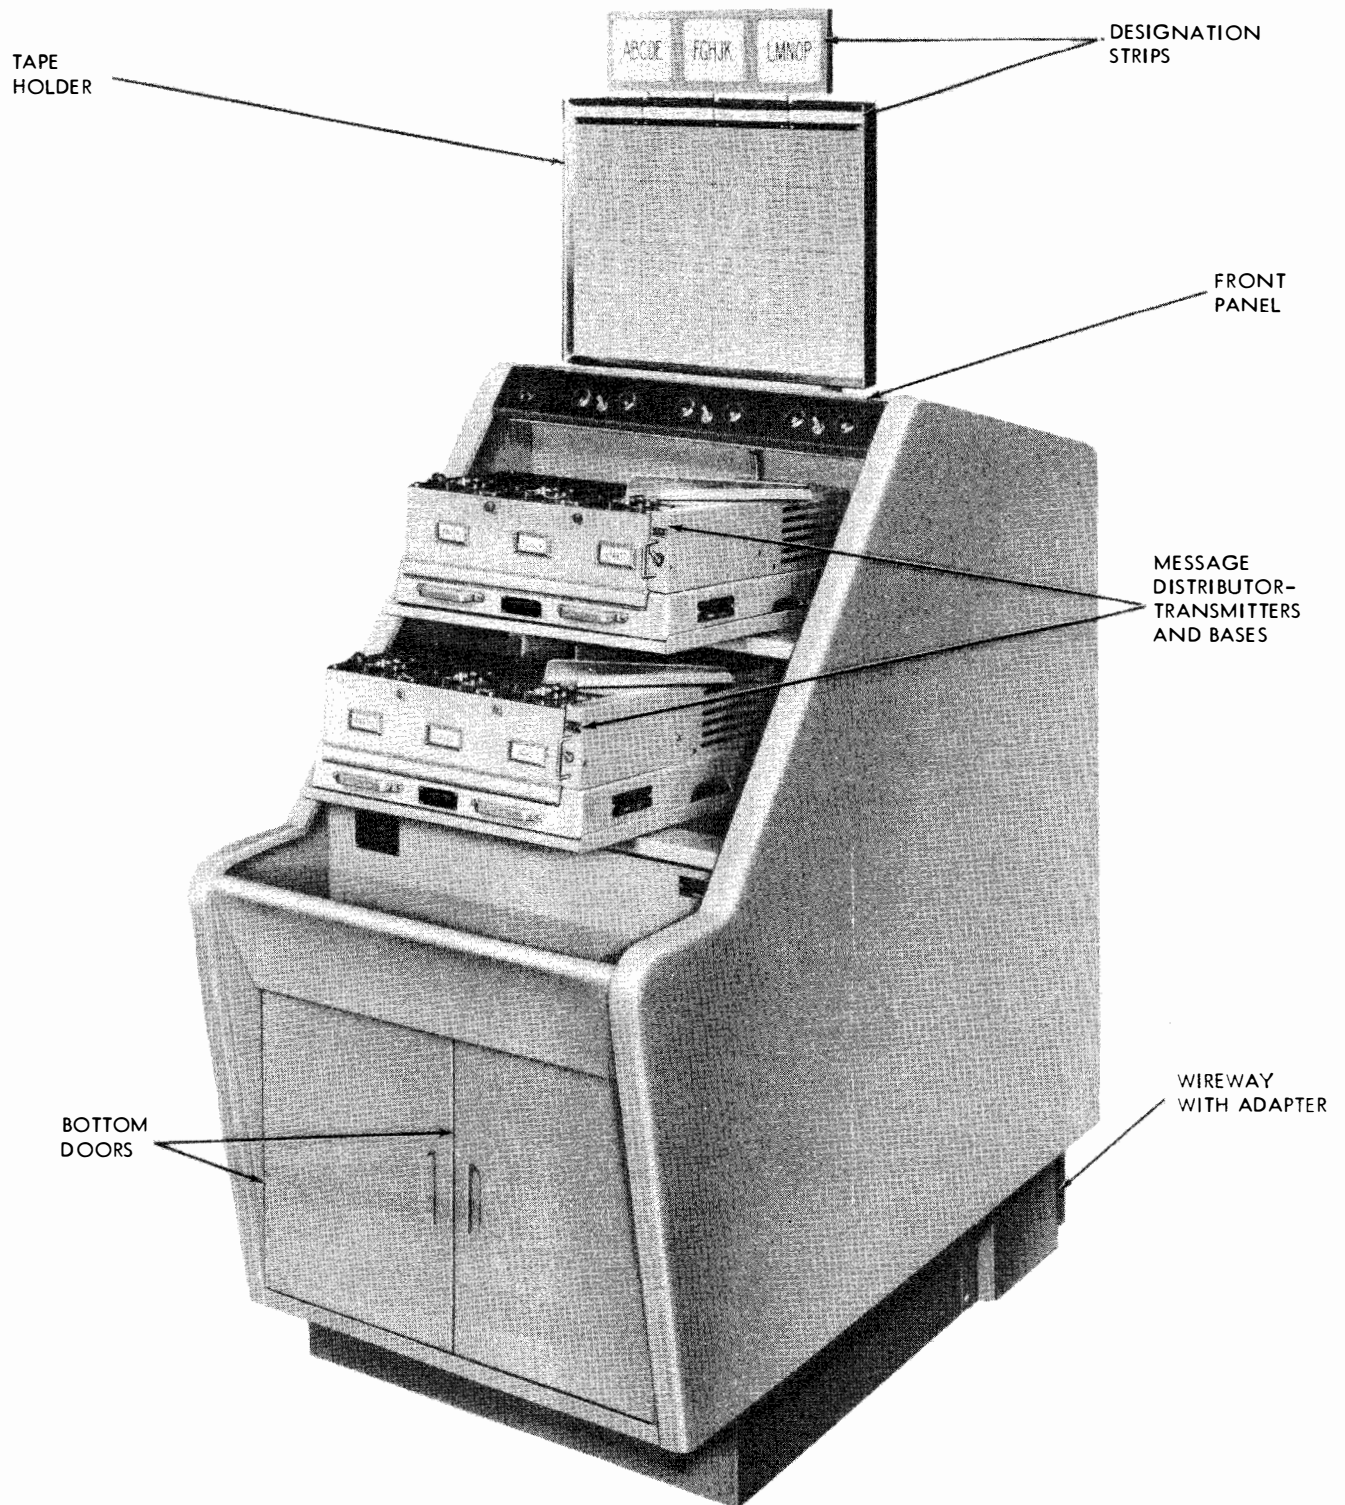

Figure 1-3. Electrical Equipment Cabinet CY-1524/FGC (Transmitting), Oblique View
b. **CABINET, ELECTRICAL EQUIPMENT CY-1524/FGC (TRANSMITTING).**—This cabinet contains two message Distributor-Transmitter Bases, six message Distributor-Transmitters, one numbering Distributor-Transmitter Base, three numbering Distributor-Transmitters, one Power Supply PP-987/U, three Control Panels SB-358/FGC, wiring, and associated parts (see figure 1-3). The front panel, located above the distributor-transmitters at the front of the cabinet, has a BUSY and OPEN LINE alarm lamp for each outgoing signal line, a RESET button, and a NUMBER-DELETE switch for each numbering distributor-